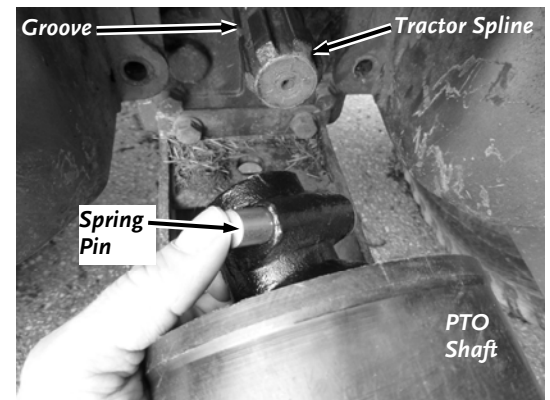

Figure 17
- Push in the Spring Pin at the end of the PTO Shaft and slide it onto the Tractor Spline (**Figure 17**). When the PTO Shaft is started on the Tractor Spline Shaft, release the Pin and continue to push the PTO Shaft until the Spring Pin locks into the Groove of the Tractor Spline.